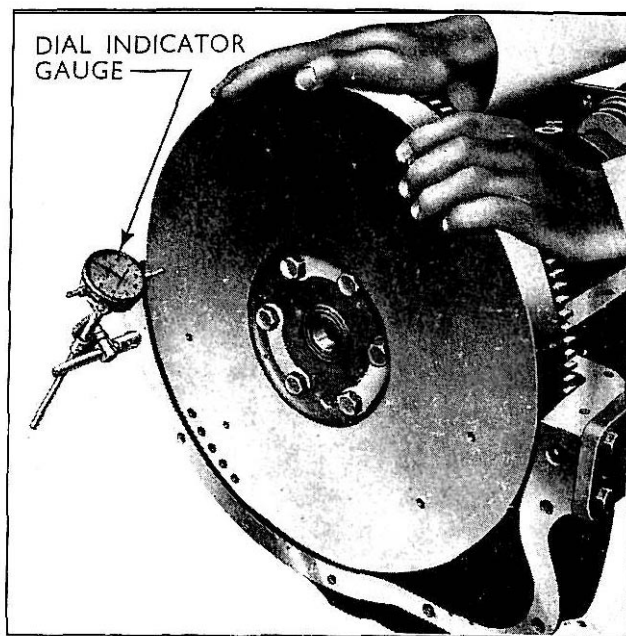

Fig. 45
- 4 It is essential that the flywheel runs true, as dirt, etc., between the mating flange faces could cause it to run out of balance, with consequent difficulties. The clutch thrust face and flywheel rim should be tested with a dial indicator, when the "run-out" (total indicator reading) should not exceed 0.005 in. (see Fig. 45).